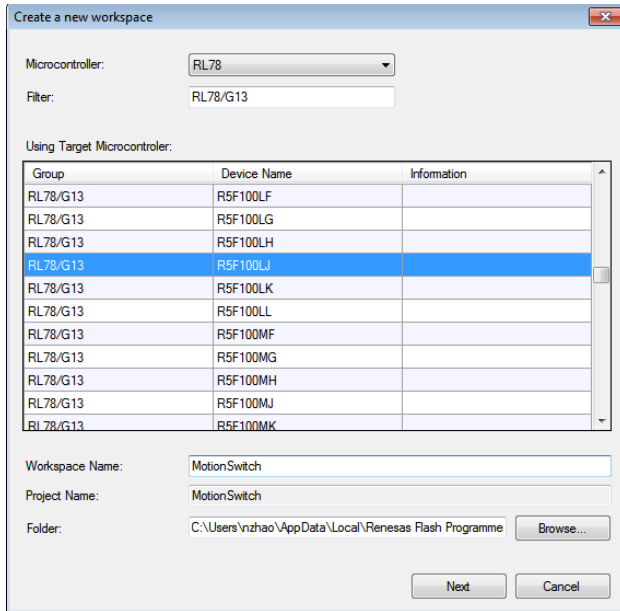

Figure 16. Select Target Microcontroller
3. Select **RL78** in **Microcontroller:** drop-down menu, input **RL78/G13** (case-insensitive) in **Filter:** textbox, roll the scrollbar to find the Device Name: **R5F100LJ** in the **Using Target Microcontroller**, Input workspace name in the **Workspace Name:** textbox (See Figure 16), then click **Next**.